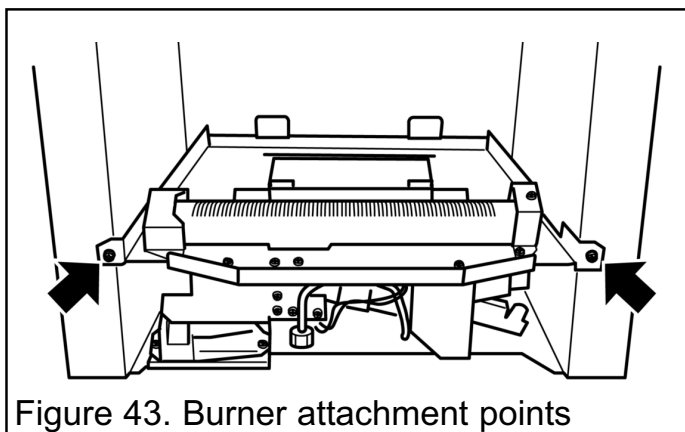

Figure 43. Burner attachment points
4. Detach the burner unit from the convection box by removing two screws (See figure 43).